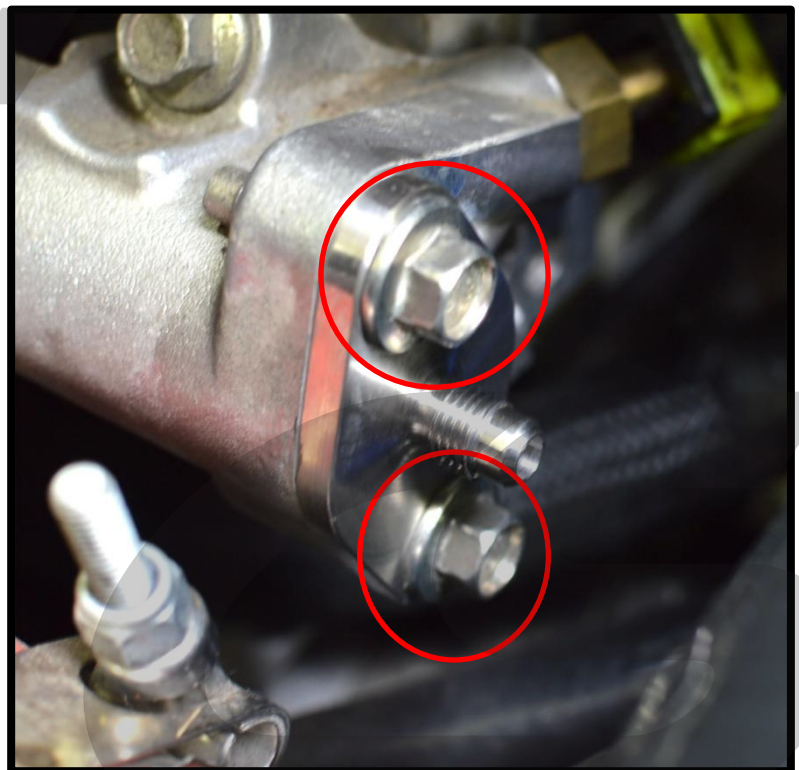

Figure 7b
- f) Install the CorkSport Fuel Rail Cap. Apply a thin layer of oil to the outside edge of the O-ring; this will improve installation and simply dissolve into the fuel. Press the fuel rail cap into the fuel rail then install and torque the two 10mm bolts to **13-16 ft-lbs** as (shown circled in red in **Figure 7b**).